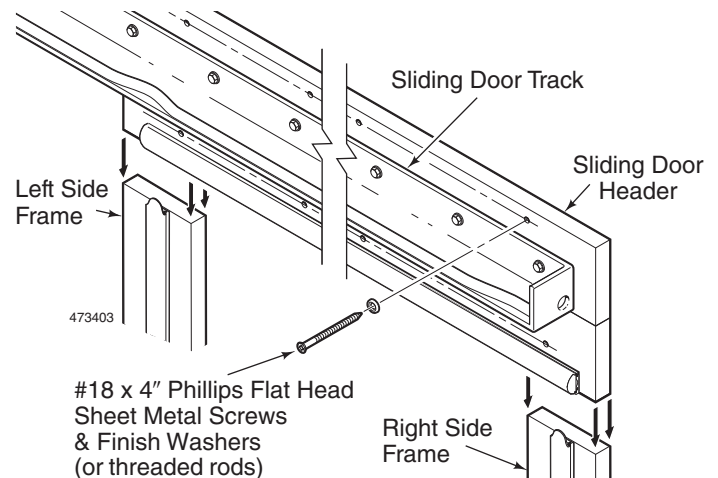

Figure 3
5. Mount the Sliding Door Track and Header assembly above the door frame. See *Figure 3*. For a single door, mount the end of the Track flush with the edge of the side frame. For a bi-parting door, the center stops on the Door Track should be centered above the door opening. In all cases, anchor the Door Header with the fasteners that are provided.